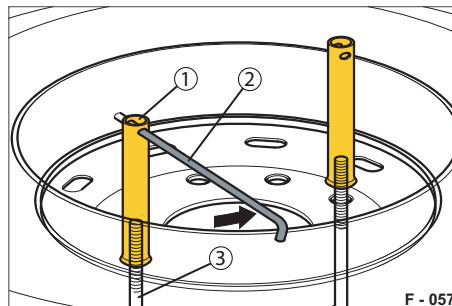

Fig. 91 Loosening the tube nuts
- ▶ Remove the tommy bar (Fig. 91/2).
- ▶ Unscrew the tube nuts (Fig. 91/1).
Use the tommy bar as a lever and hold the hook bolt (Fig. 91/3) firmly in place.